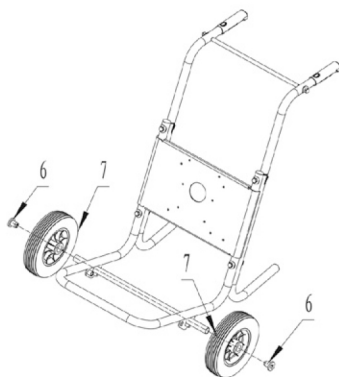

Fig.3
Slide the wheels (7) onto the axles and secure by banging in the plastic wheel bungs (6) with a hammer or mallet.(Fig.3)